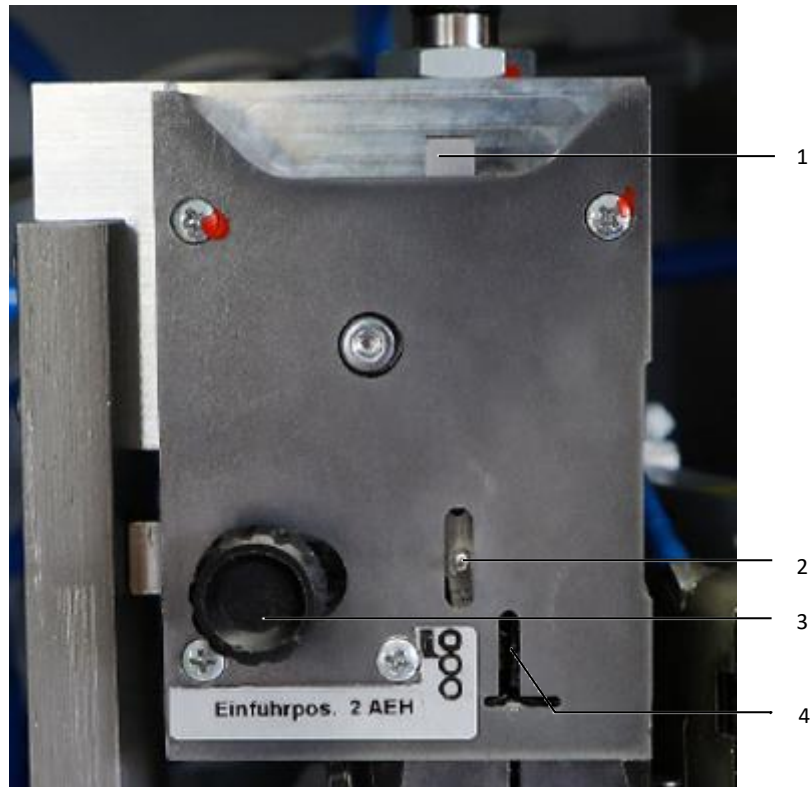

Fig. 5: Transport unit
- Press the release button (fig. 5, item 3) to the right.
- Insert the belt until a sleeve is below the transport lever (fig. 5, item 4).
- Press the transport slider (fig. 5, item 1) once, and thus also the transport lever pin (fig. 5, item 2) down, until two sleeves are located below the transport lever.